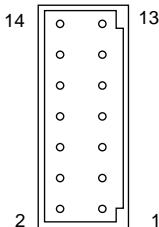

Fig. 3-5: External Control connector pin assignment (ZUP rear panel view)
The external control connector, used for analog programming of the power supply, is located on the rear panel of the unit,(Fig. 4-2, item 4). The pin assignment is shown in Fig. 3-5 below.